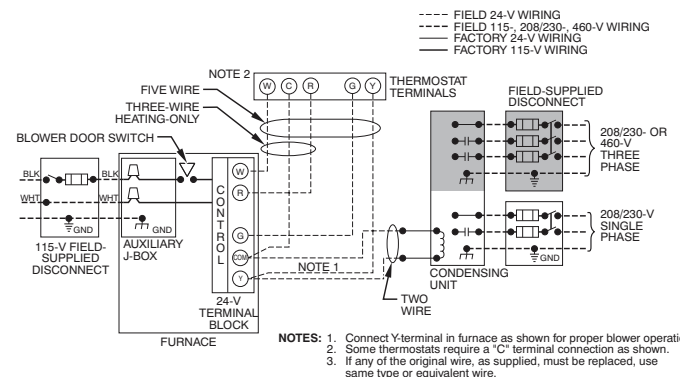
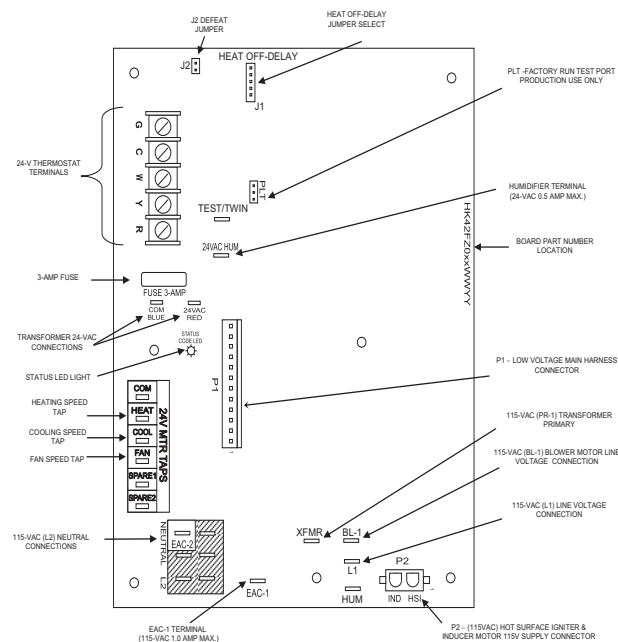

Fig. 32 – Typical Single-Stage Wiring Diagram
Fig. 37 – Example of Single Stage Furnace Control
See Fig. 32 for field wiring diagram showing typical field 115-V wiring. Check all factory and field electrical connections for tightness. Field-supplied wiring shall conform with the limitations of 63°F (35°C) rise.
- Connect power cord power and neutral leads to furnace power leads as shown in Fig. 32.
- Connect field power and neutral leads to furnace power leads. as shown in Fig. 32.
Make field 24-v connections at the 24-v terminal strip. See Fig. 37. Connect terminal Y as shown in Fig. 32 for proper cooling operation. Use only AWG No. 18, color-coded, copper thermostat wire.
The 24-v circuit contains an automotive-type, 3-amp. fuse located on the control. Any direct shorts during installation, service, or maintenance could cause this fuse to blow. If fuse replacement is required, use ONLY a 3-amp. fuse of identical size. See Fig. 37.
Accessories (See Fig. 37.)